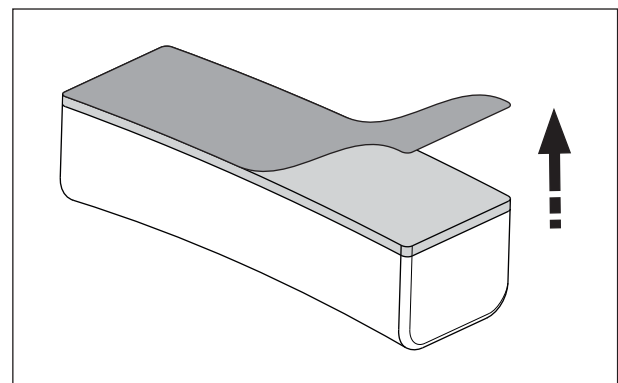

Fig. 2.134
2. Remove (peel off) the protective cover on the back side of the balancing weight as shown. (Fig. 2.134)